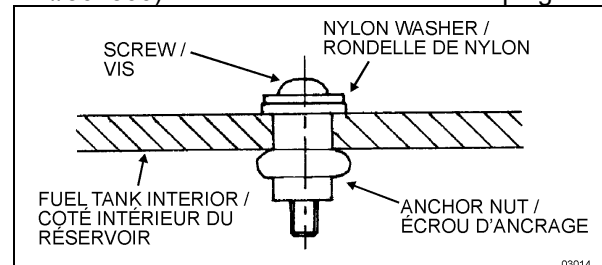

FIGURE 17: FUEL TANK REPAIR
5. Place assembly in drilled hole. Tighten screw by 10 complete turns. Refer to Figure 17.